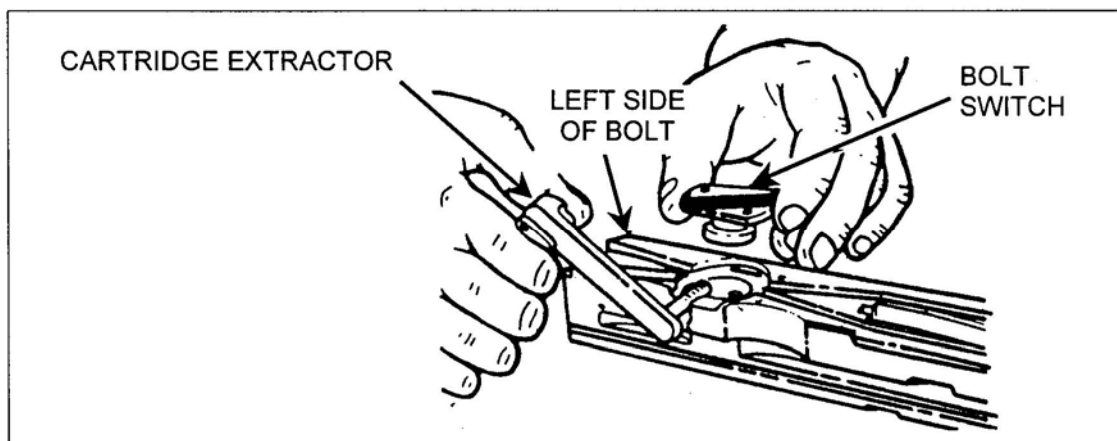

Figure 9. Removal of the cartridge extractor and bolt.
- (5) Disassemble the bolt.
- (a) Rotate the cartridge extractor upward and remove it from the left side of the bolt (Figure 9).